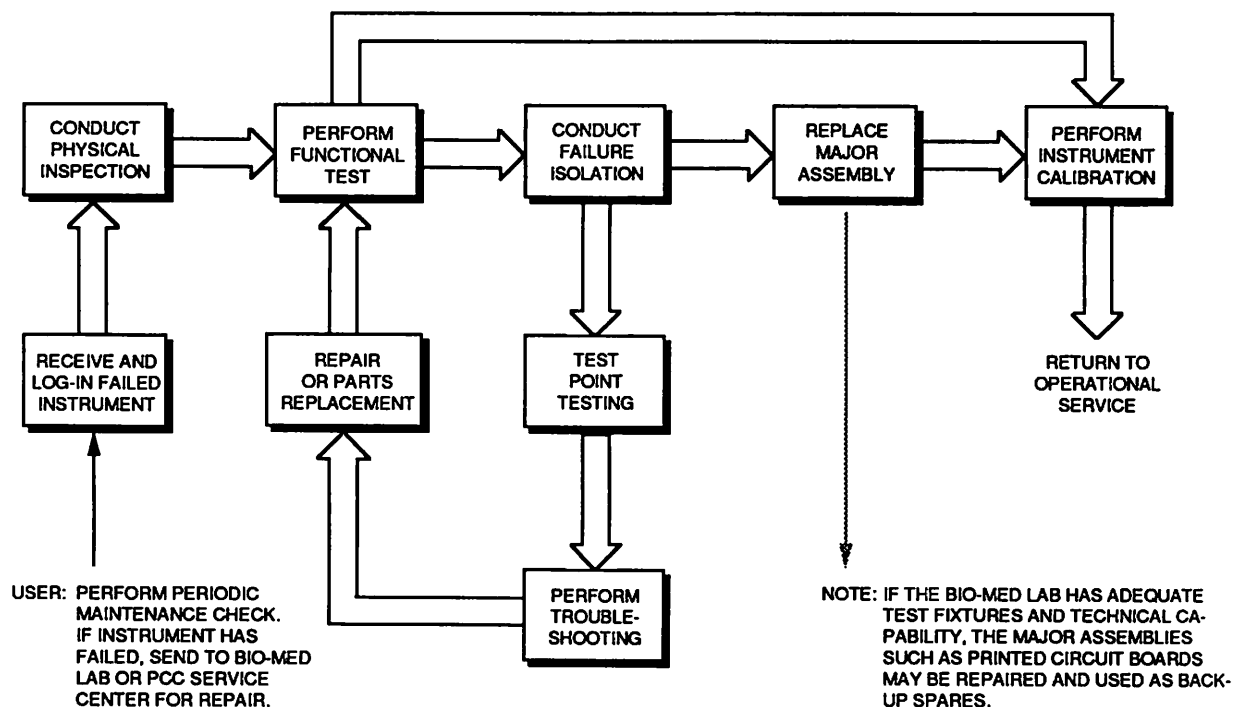

FIGURE 4-1. MAINTENANCE FLOW DIAGRAM
- Refer to the Maintenance Flow Diagram, Figure 4-1.